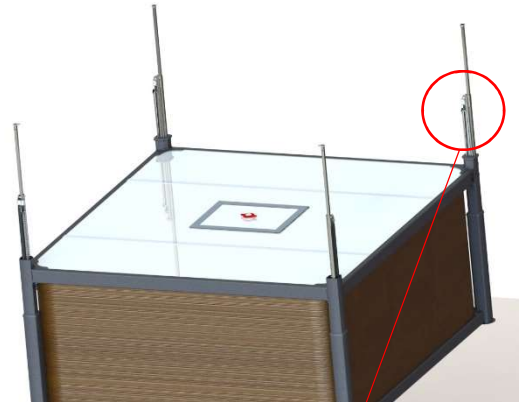

Figure 21
6) Raise the jacks until the system stops at maximum limit. (Figure 21)